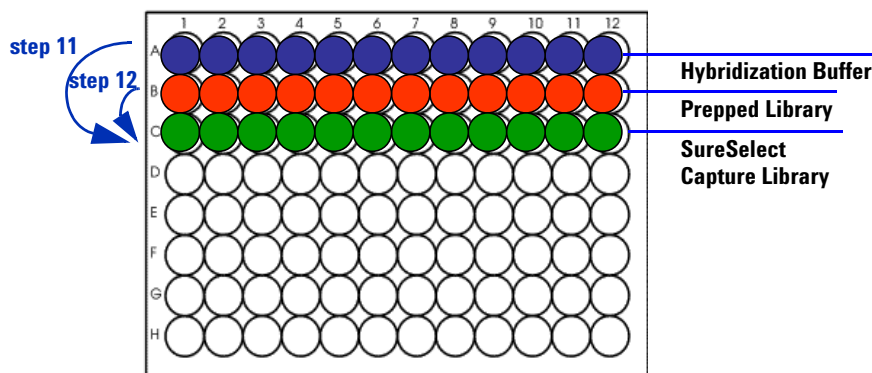

Figure 8 SureSelect Capture Library, or “Baits”, shown in Green
- 11** Maintain the plate at 65°C while you use a multi-channel pipette to take 13 μL of Hybridization Buffer from the “A” row and add it to the SureSelect capture library mix contained in row “C” of the PCR plate for each sample. (See Figure 8.)
- 12** Maintain the plate at 65°C while you use a multi-channel pipette to transfer the entire contents of each prepped library mix in row “B” to the hybridization solution in row “C”. (See Figure 8.) Mix well by slowly pipetting up and down 8 to 10 times.